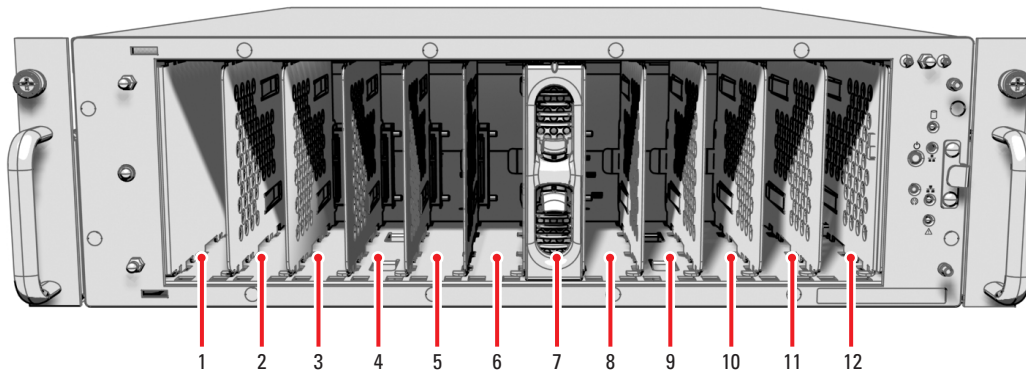
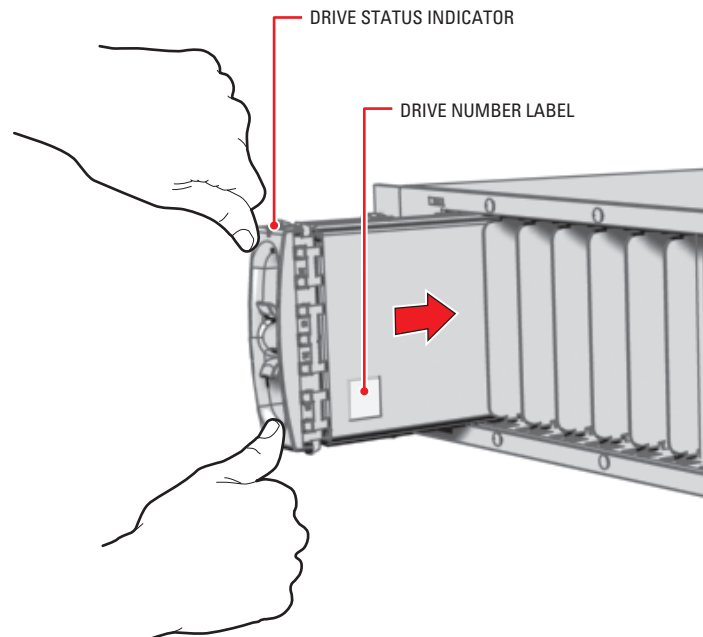

Figure 17. Drive Bay Assignment
Figure 18. Hard Disk Drive Carrier Installation
- Identify the drive bay for each hard drive carrier. The drive bays and drive carriers are numbered from 1 to 12 (refer to Figure 17 and Figure 18).